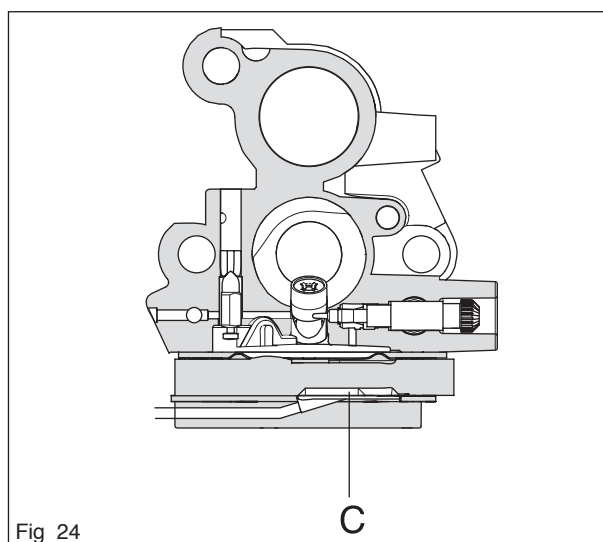

Fig 24
In the pump unit (C), fuel is pumped from the fuel tank to the metering unit. One side of the pump diaphragm is connected to the crankcase and pulses in time with the pressure changes in the crankcase. The other side of the diaphragm pumps the fuel (see figure 24).